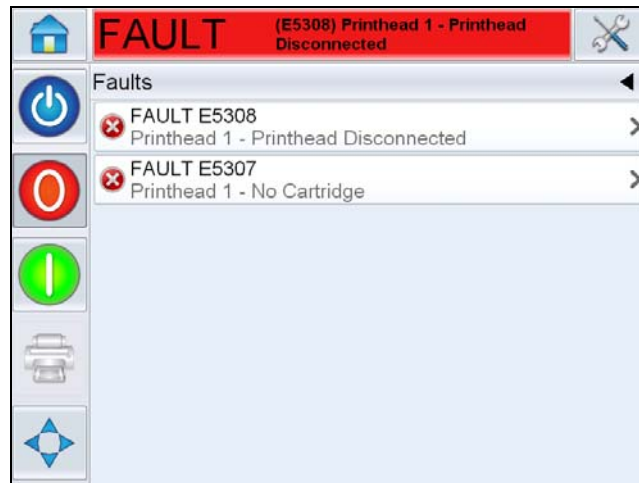

Figure 8-2: Fault Selection
- 1 Touch the red **FAULT** message to view the list of faults (see Figure 8-2 on page 8-3).